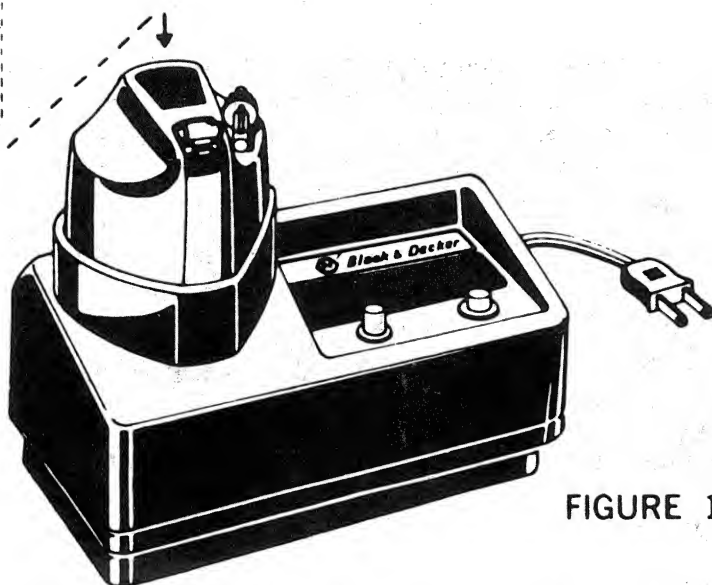

FIGURE 1
1. Place the Power Pack in the Charger as shown in Figure 1. Note that groove in Power Pack faces front. Plug in Charger.